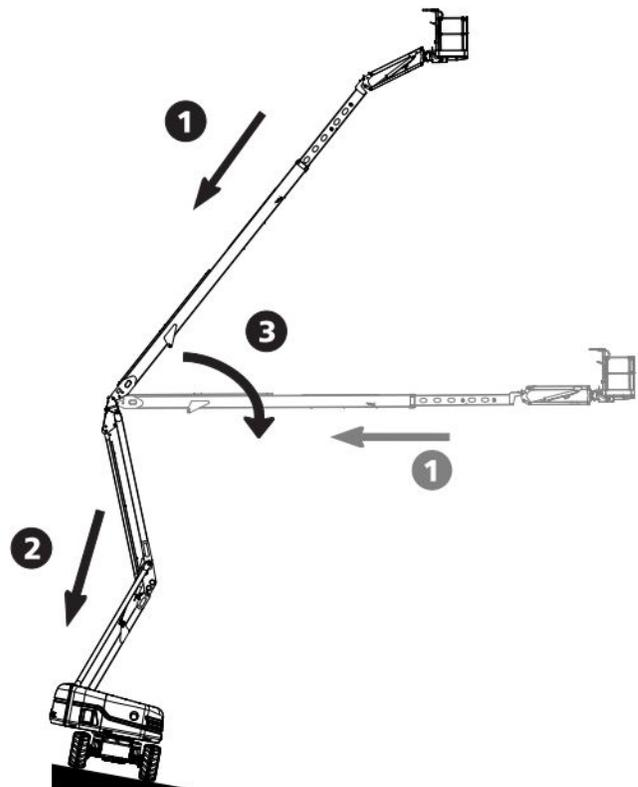

Figure 27 Platform downhill
6. Locate the bypass valve on the inboard side of the drive pump. Re-engage the drive pump by loosening the valve stem (item 1 - marked with yellow paint - Figure 27) 90 degrees counterclockwise.